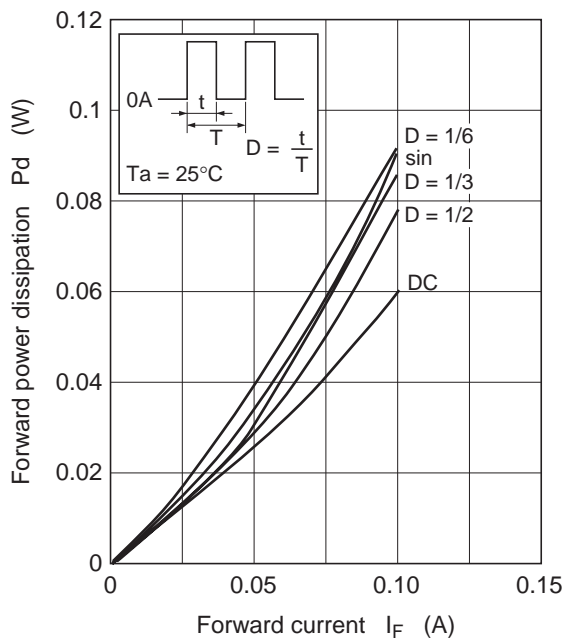

Fig3. Forward power dissipation vs. Forward current
- Notes: 1. See from Fig.3 to Fig.5.